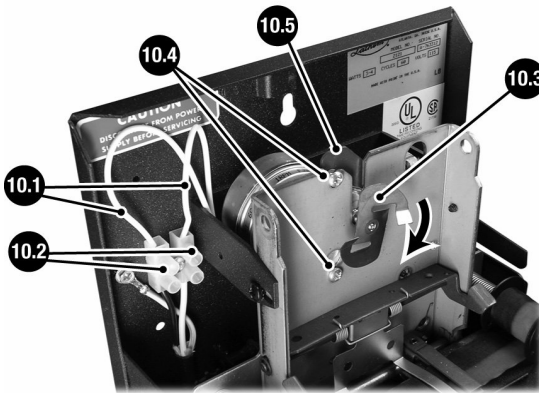

Figure 10
3. **Figure 10** shows a close-up of cam block terminal.
4. Disconnect **Motor Wire Leads - Figure 10, 10.1** by turning each **Screw - 10.2** one-quarter of a turn counterclockwise.
5. Remove the **Motor Clutch - Figure 10, 10.3** from its shaft. The shaft has **LEFT HAND** threads - remove clutch by turning clockwise.
6. Hold **Motor Bracket - Figure 10, 10.4** and loosen **Motor Mounting Screws - Figure 10, 10.5**. Remove and retain screws and bracket from old motor.
9. Install the new motor wire leads into the cam block terminal - **Figure 10, 10.1** by turning each **Screw - 10.2** one-quarter of a turn clockwise.